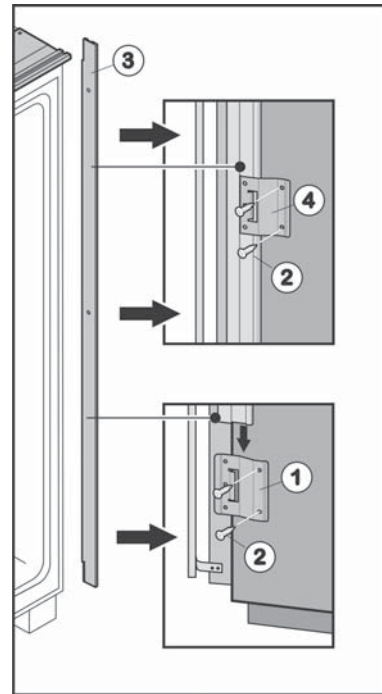

Fig. 32
- Fit retaining plate Fig. 32 (1) to the lower part of the handle side by inserting two screws Fig. 32 (2) into the pre-cut holes.
- Slide installation strip Fig. 32 (3) into the retaining plate Fig. 32 (1) from above.
- Push second retaining plate Fig. 32 (4) onto the installation strip Fig. 32 (3) from above and screw to the center of the side wall.
- Push third retaining plate Fig. 32 (4) onto the installation strip Fig. 32 (3) from above and screw to the top part of the side wall.
- ▶ Glue the adhesive plates *Fig. 35 (20)* above the retaining plate *Fig. 32 (1)* and the retaining plates *Fig. 35 (4)* respectively to the installation strip *Fig. 35 (3)* such that it cannot slide downwards.